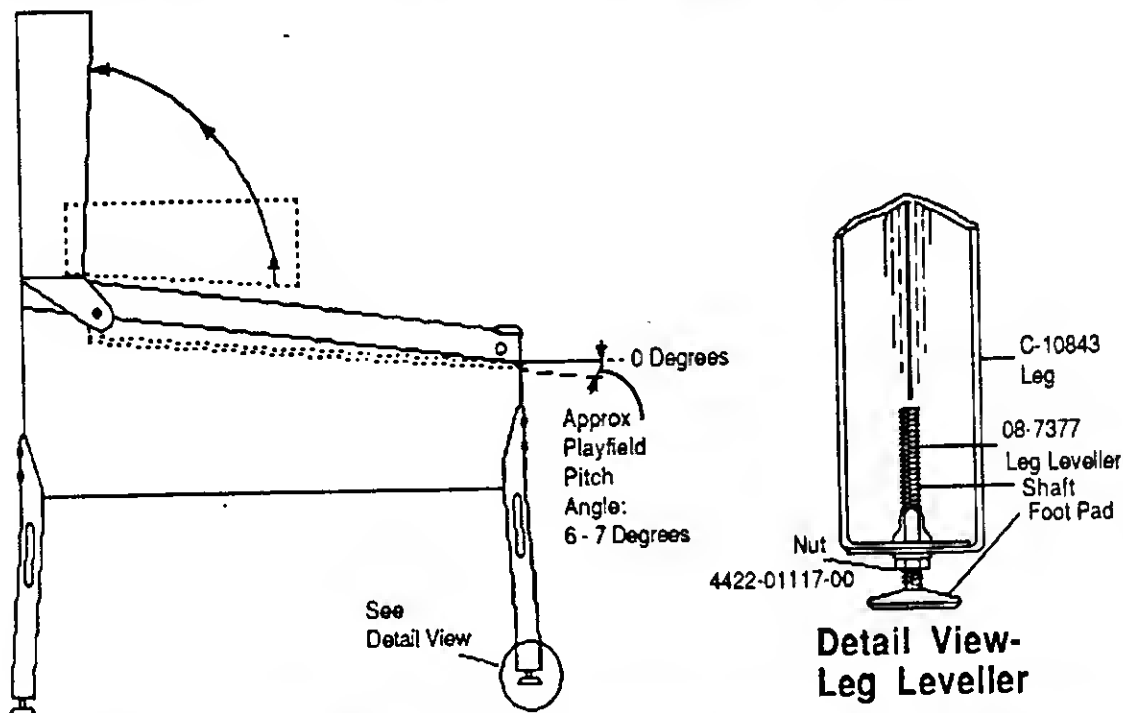

Figure 3. Pinball Assembly, Playfield Pitch Angle, and Leg Leveller Details.
3. Attach the front legs (after installing leg levellers), using leg bolts. See Figure 3 for details.
6. Adjust the leg levellers for proper playfield level (side-to-side) *and* playfield pitch angle (incline) of approximately 6 degrees. (Again, it is recommended that these measurements be made **ON** the playfield, not the cabinet nor the playfield cover glass.) Tighten the nut on each leg leveller shaft to maintain this setting, as shown in Figure 3.